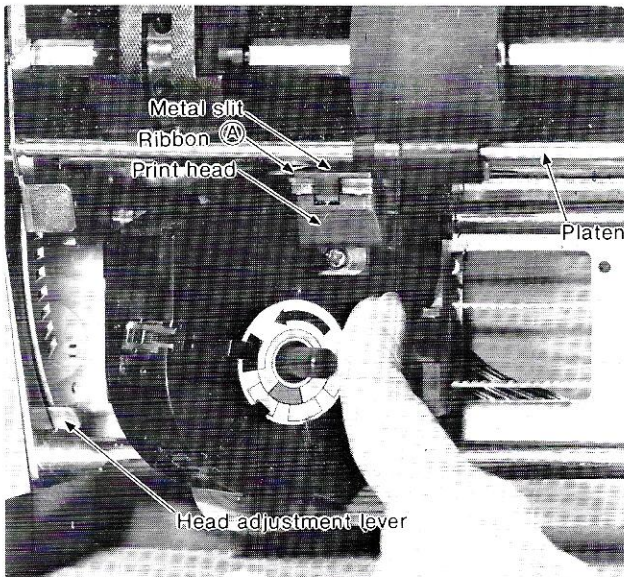

Figure 5
- d) To insert the ribbon cassette, hold the cassette at an angle (figure 5) and put into position from the right side. The A portion of the ribbon must slide between the printhead and the metal slit.
- e) Push on the lower right side of the cassette with the index finger as shown in figure 5. The cassette should click into place. If you don't hear a click, turn the cassette knob a little more in the direction of the arrow and press again on the right side of the cassette until it clicks. With the cassette installed, turn the cassette knob again in the direction of the arrow to tighten the ribbon.